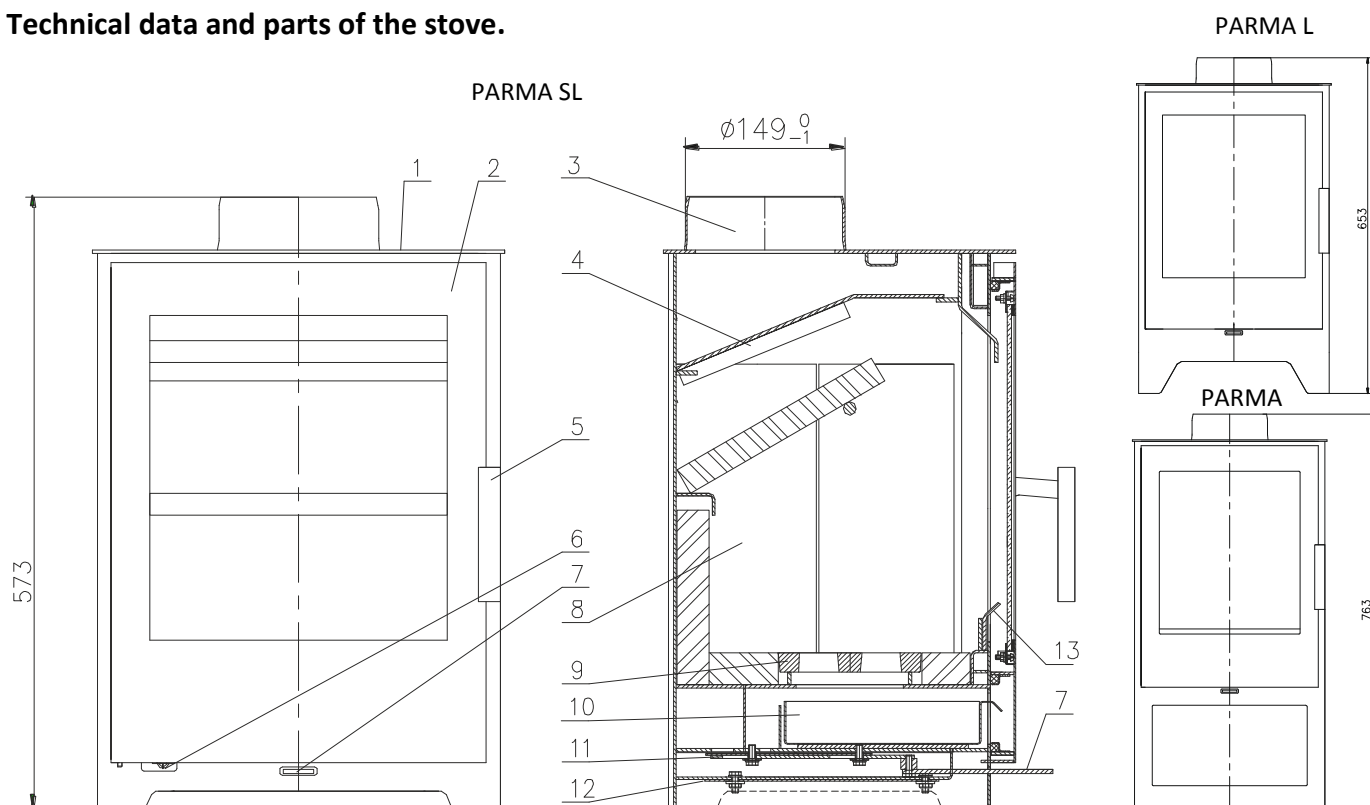
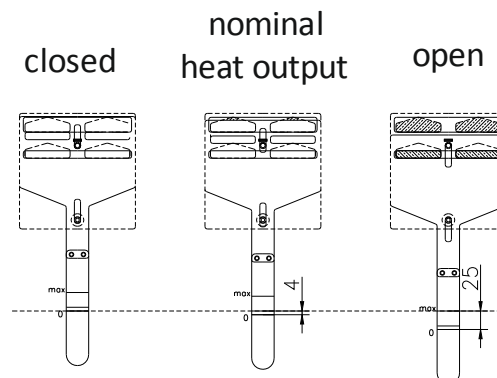

Fig. 1.
Fig.3
The combustion process is controlled with the supplied primary and secondary air by the regulator (Fig.1, Pos. 7). The combustion rate is increased by pulling the lever from position "0" to position "max" (Fig.3). This allows more air to be send to the combustion chamber. Primary air is used during ignition of the stove and for control of the burning intensity. Primary air is adjusted by the position of the air regulator (Fig.3). By pulling the air regulator (Fig.1, Pos. 11) the heat output of the stove is increased. Respectively when pushed in towards the stove the heat output decreases. Primary air is required for faster ignition of the fire. The primary air passes through the ash pan, the bottom grate and goes into the firebox. The ashtray should not be left fully filled. If full, it will prevent the primary air to get in the combustion chamber. It is necessary to clean the ash pan regularly. **The ashtray is cleaned only when it is cold.**
Secondary air is used for preventing the accumulation of dust on the glass. The air is channeled above deflector at the top part of the fire door. The secondary air supply is increased when the air regulator is pulled out (Fig.3).
- After the wood is burning well, the preferred heat output is achieved by regulating the combustion air (fig.3).